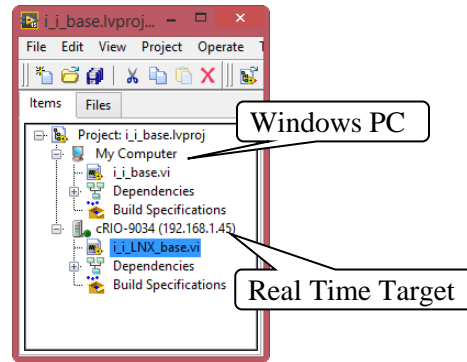
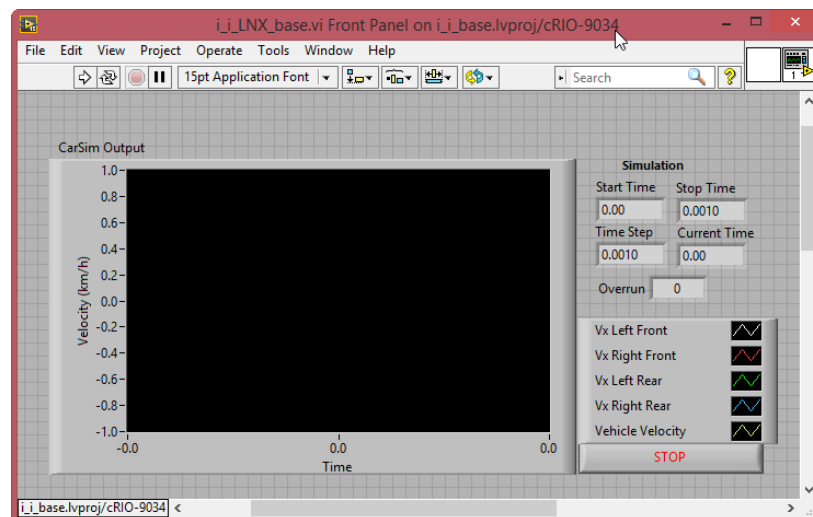
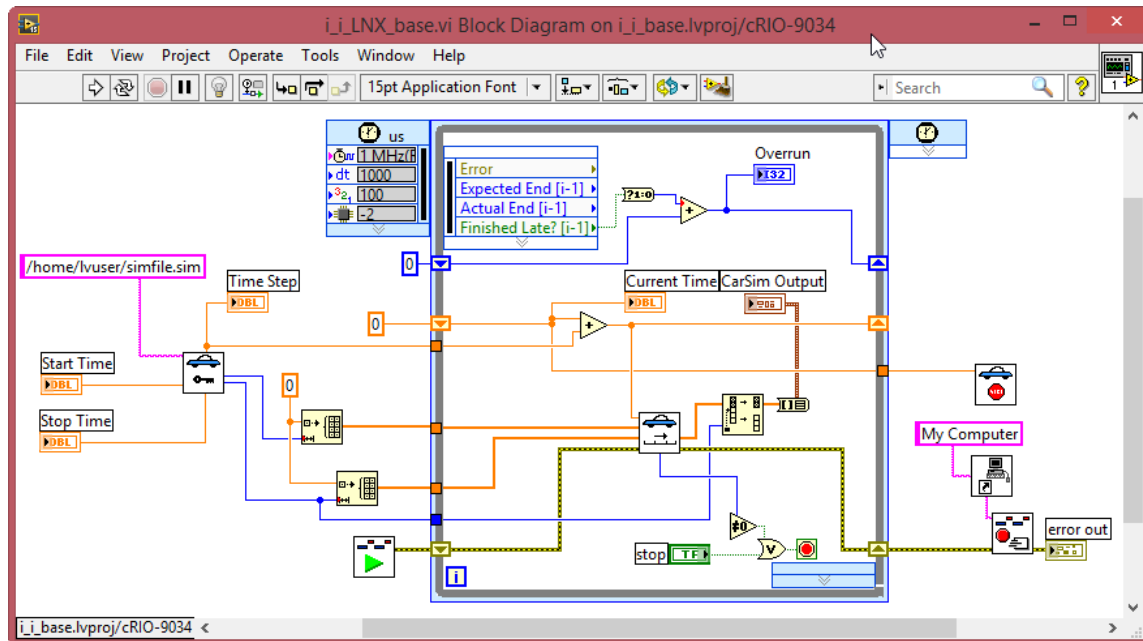
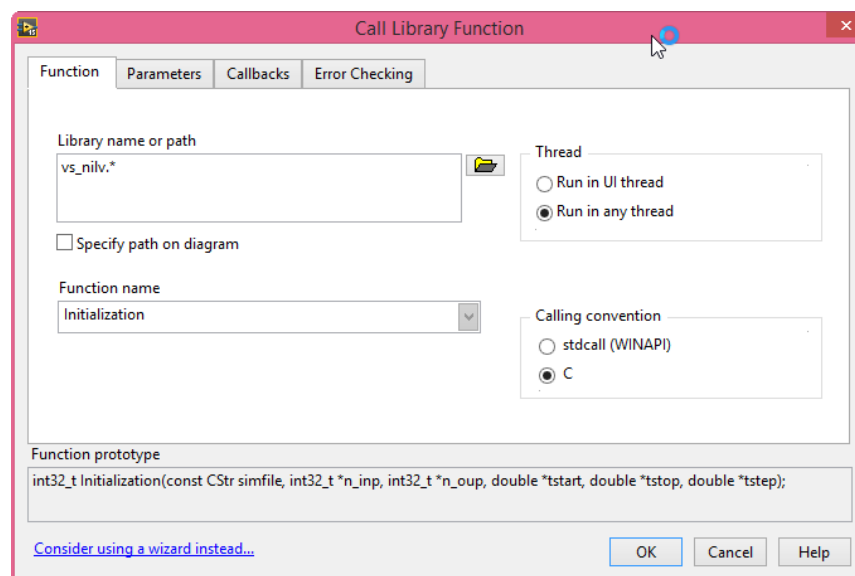

Figure 13. LabVIEW project with Baseline example.
Figure 14. LabVIEW model run on the real-time target.
Figure 15. *i\_i\_LNX\_base.vi* Block Diagram.
Figure 16. Call Library Function Window.
2. In this example, there are two nodes (computers), and each one has the model file (vi file): My Computer (Windows host PC) and cRIO-9034 (Linux RT LabVIEW target) (Figure 13)
4. Double click `i_i_LNX_base.vi` on the real-time node (Figure 13) to open the example on the real-time target (Figure 14). Go to **Windows > Show Block Diagram** and see the connection diagram shown in Figure 15. Inside this diagram, open the Call Library Function window by clicking a car icon (there are three icons with a car image, clicking any of the icon is ok). You can see that the library name is `vs_nilv.*` (Figure 16).
5. In the LabVIEW window (Figure 14), click on the run button (⇒) (or use the keyboard shortcut **Ctrl+R**) to deploy the model to the real-time target and make the run.